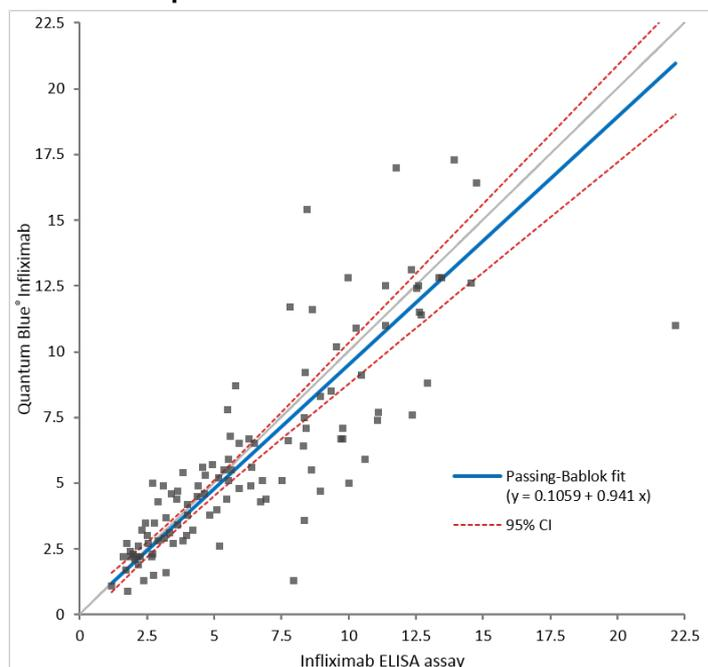

Fig. 3
The method comparison study was performed according to the CLSI guideline EP09-A3. One hundred and ten (110) samples were measured according to the instruction for use with the Quantum Blue® Infliximab assay and with a commercially available infliximab ELISA test (ref. 2). Measurements were performed over three days using two Quantum Blue® Infliximab test cassette lots. The correlation data is illustrated in Fig.3.